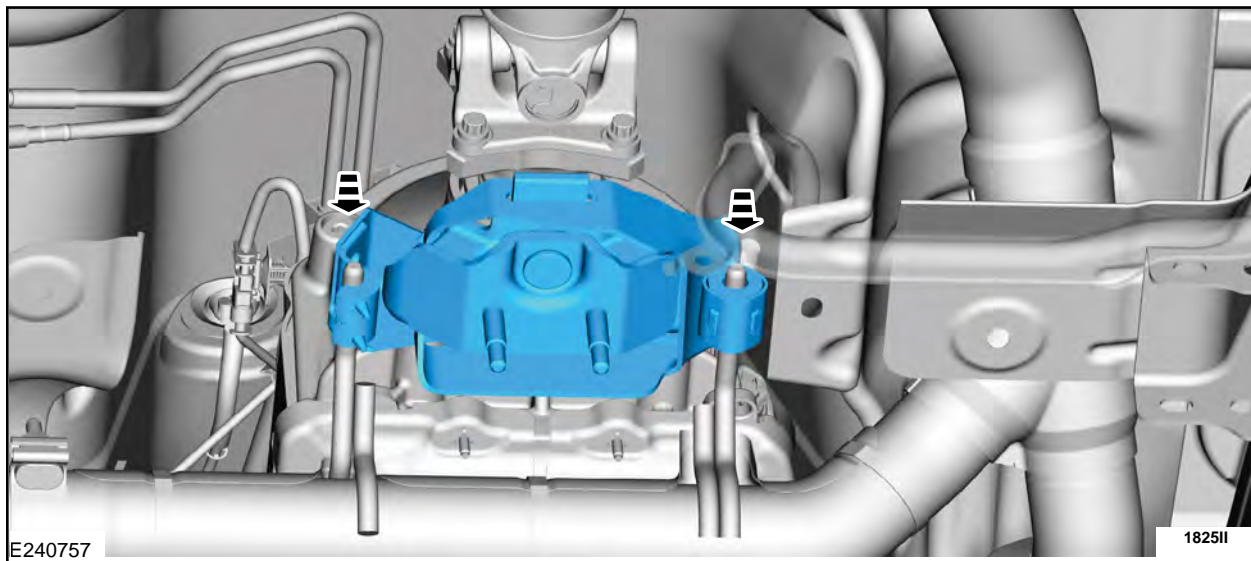

FIGURE 33
53. Install the transmission support insulator. See Figure 33.